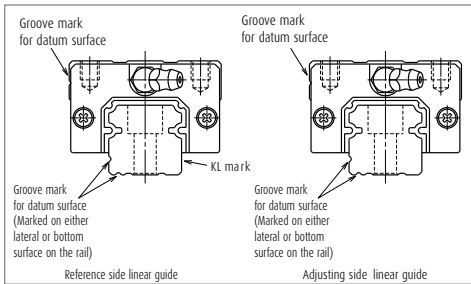

Fig. 1 Datum surface
- In case that two or more linear guides are used together, one linear guide is designated as a reference side guide, and the rest is adjusting side guide(s). The reference side linear guide has its reference number, serial number, and "KL" mark on the opposite side of the datum surface (Fig. 1).